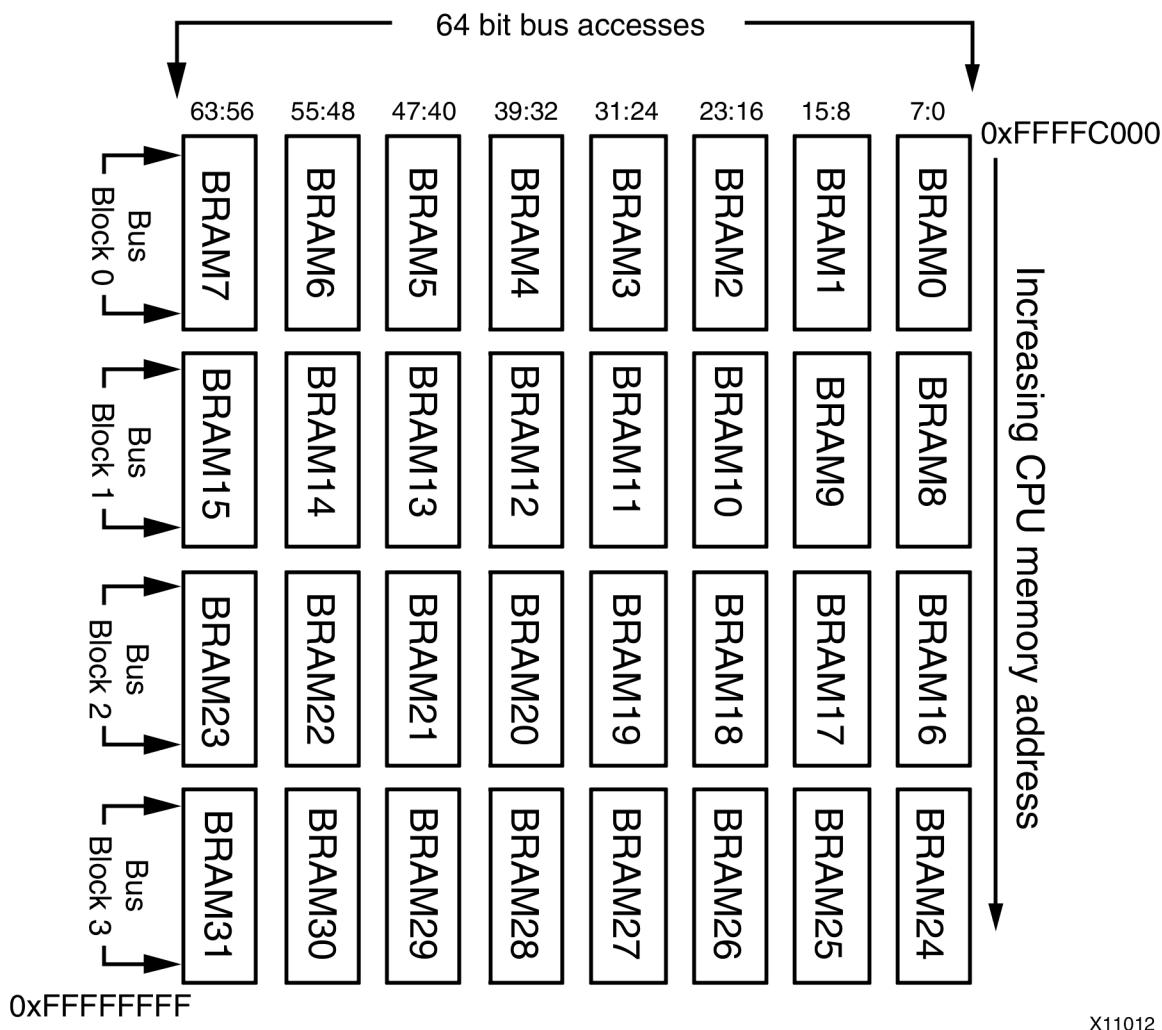

Figure 7-1: Block RAM Address Space
- The block RAMs come in fixed-size widths and depths, where CPU address spaces might need to be much larger in width and depth than a single block RAM. Consequently, multiple block RAMs must be logically grouped together to form a single CPU address space as seen in Figure 7-1.